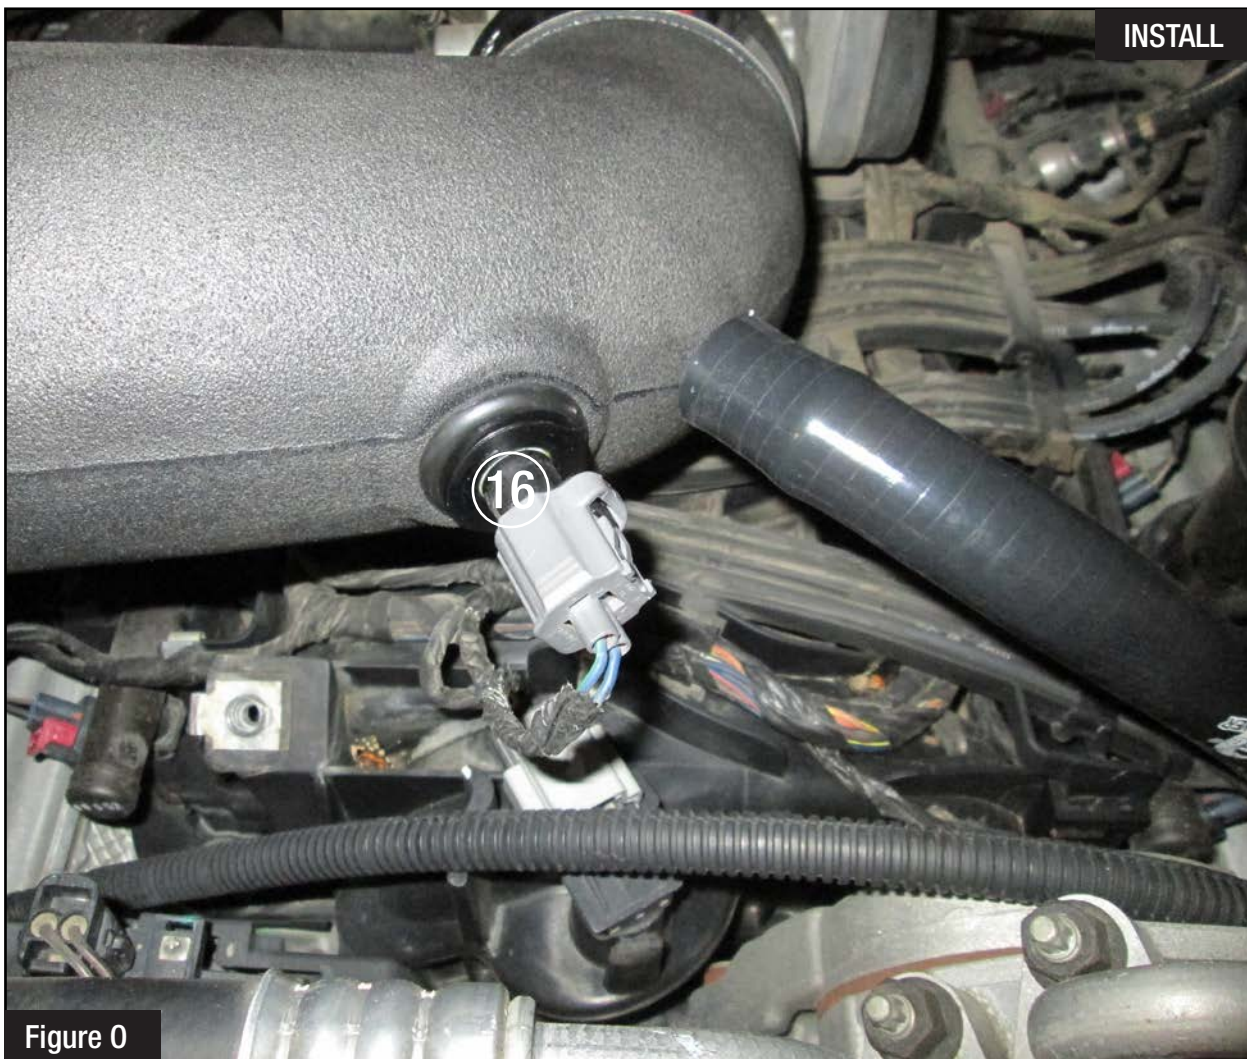

Figure 0
**Refer to Figure 0 for Step 20**
Step 20: Reconnect the temperature sensor harness (16).